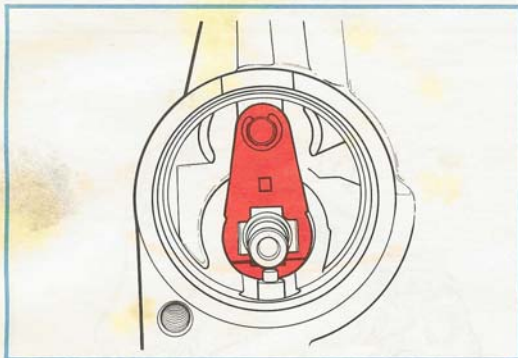

Figure 1-23, Detent Lever – Neutral.
- The detent lever has channels on its inside bore which allow rollers (held by pins on the shift shaft) to ride (Figure 1-23).